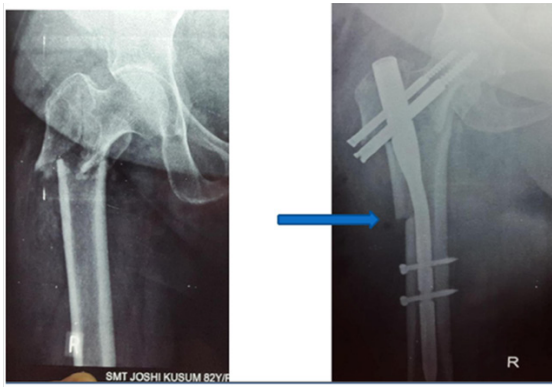

Figure 23 Risk of intraoperative fracture extension.
H. If nail not progressing do not hammer specially in Short ladies with narrow canal. Ream REAM REAM. Do not Hammer or only last 1 cm or otherwise there is risk of intraoperative fracture extension (Figure 23).